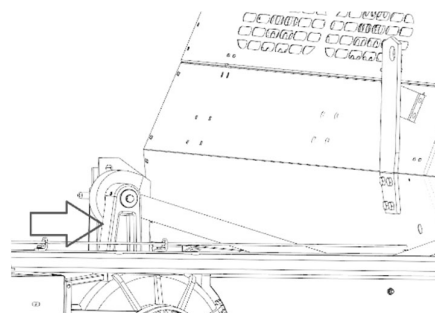

Figure 44: Piston Rod
- Piston rod is set to vertical position (Figure 44).